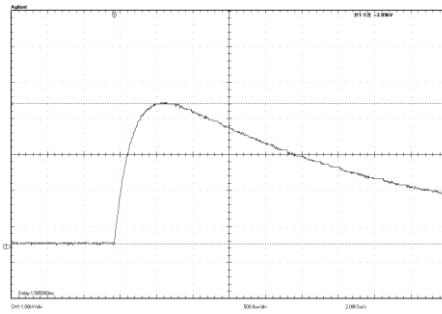

Figure 6. $V_{peak} = 3.90kV$ with 25mH inductor
- b. V_{peak} about 3.90KV, see figure 6 (When inductor open for 25mH).